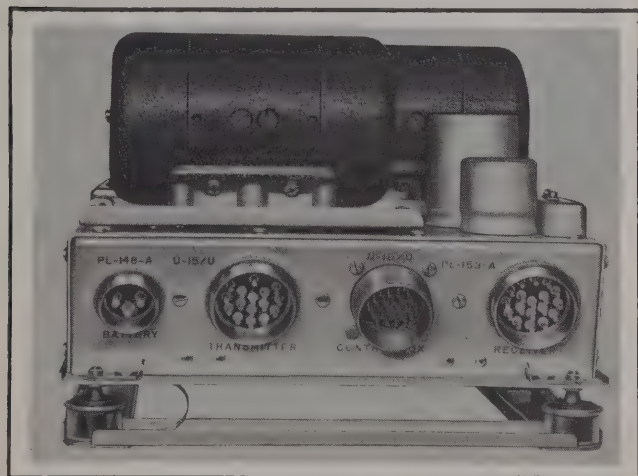

Figure 1-3. Power Junction Box J-68/ARC-3 on Mounting Base MT-236/ARC-3
c. **POWER JUNCTION BOX J-68/ARC-3.**—Fastened to Mounting Base MT-236/ARC-3 with four snapslides, is the power junction box. (See fig. 1-3.) On the top surface of the metal box are located two dynamotors, two fuse covers, and two filter chokes. Four receptacles are located on the front apron of the power junction box chassis which is sloped inward to prevent moisture from collecting in the plugs under humid conditions. Reading from left to right, the receptacles are marked "PL-148A" which is the "BATTERY" connection, "U-15/U" which is the "TRANSMITTER" connection, "U-16/U" the "CONTROL BOX" connection and "PL-153A" which connects the "RECEIVER."
(1) **DYNAMOTOR UNIT DY-21/ARC-3.**—This dynamotor (see fig. 1-3) is the larger of the
(2) **DYNAMOTOR UNIT DY-22/ARC-3.**—This dynamotor (see fig. 1-3) is the smaller of the two dynamotors. It has three snapslide fasteners on its base to secure it to the chassis. A three-pin socket on the bottom of this dynamotor furnishes the required contact with the plug on the chassis. (See fig. 5-1.)